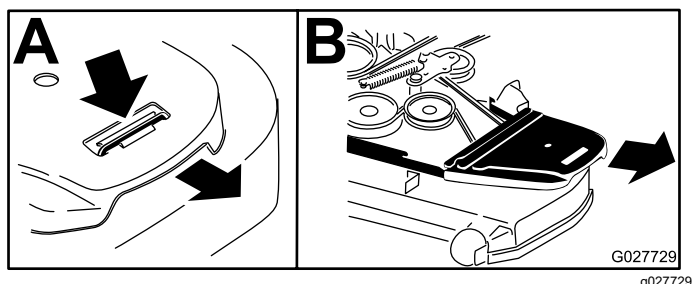

Figure 64
7. Remove the belt covers (Figure 64).